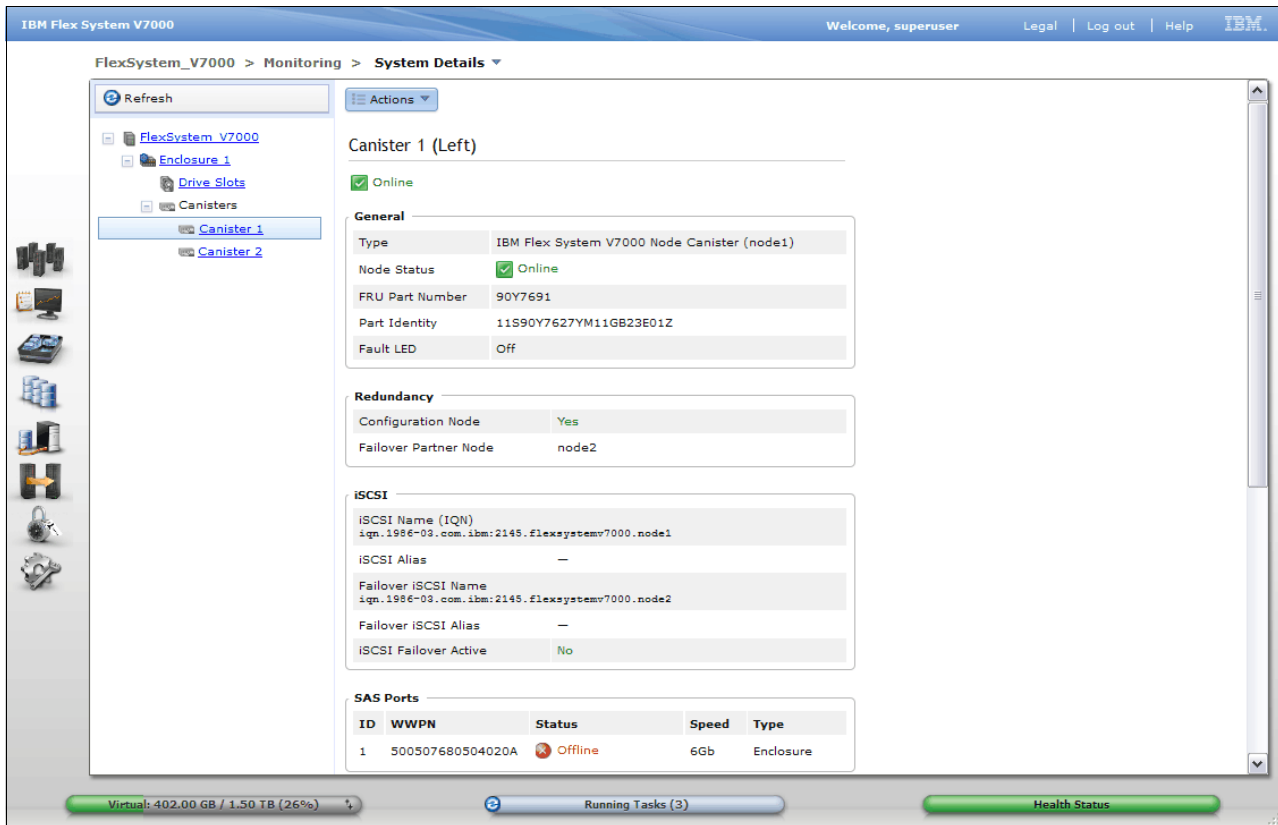
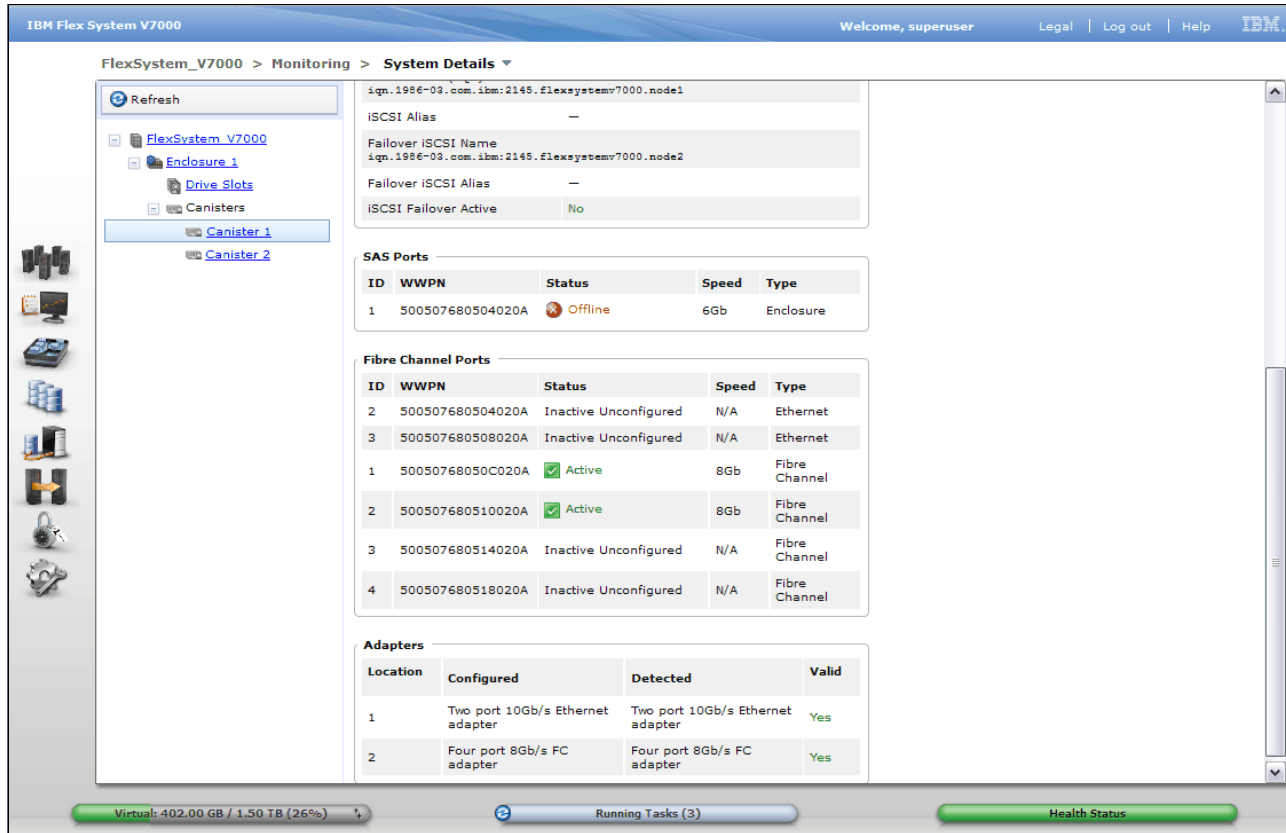

Figure 5-16 System Details - canisters
Figure 5-17 System Details - canisters, I/O modules, and WWNs
Figure 5-16 shows the top section of the properties for the left canister including Node name, SAS-port status, and the iSCSI Initiator name (IQN Name).
**Note:** In Figure 5-16 and Figure 5-17, the SAS Port 1 is Offline because the control enclosure is not currently connected to any disk enclosures.
Figure 5-17 shows the bottom section of the properties for the left canister where World Wide Names (WWNs) can be reviewed. The WWNs are used when IBM Flex System V7000 Storage Node connects to an external Fibre Channel attached storage system through SAN switches. For these SAN switches, appropriate SAN switch zoning must be applied for the external system to communicate with IBM Flex System V7000 Storage Node.